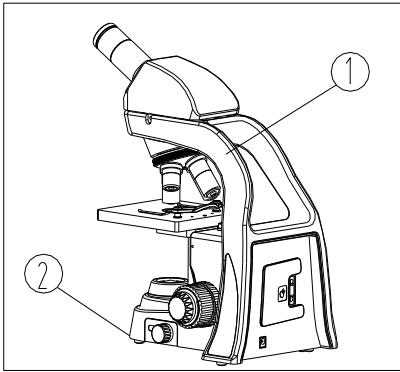

Fig. 1
3. When moving the microscope, keep holding the rear cover hand clasp① and the front end of microscope body② with each hand. Handle with care. (See Fig. 1)